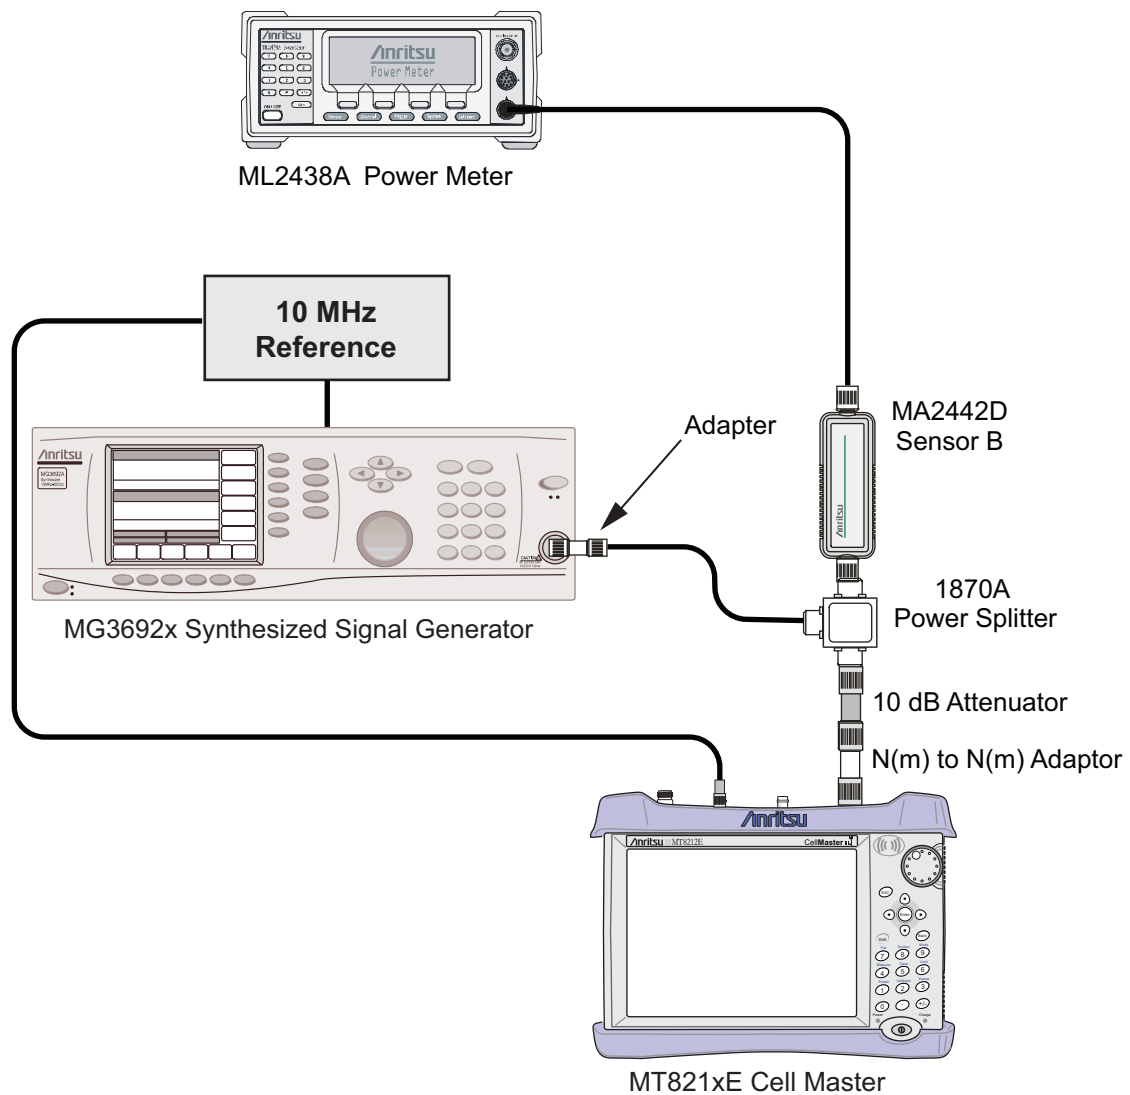

Figure 2-4. Absolute Amplitude Accuracy Across Frequency Verification Test Setup
1. Connect the equipment as shown in Figure 2-4.